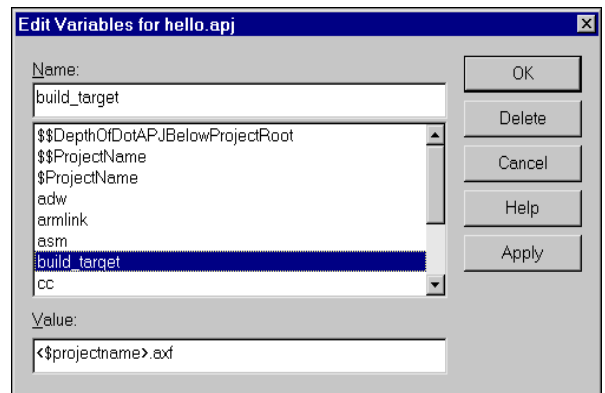

Figure 2-20 Edit Variables dialog
2. Select **Edit Variable** from the **Project** menu. The Edit Variables dialog is displayed (Figure 2-20). The title of the dialog box reflects the scope of the changes that are being made.